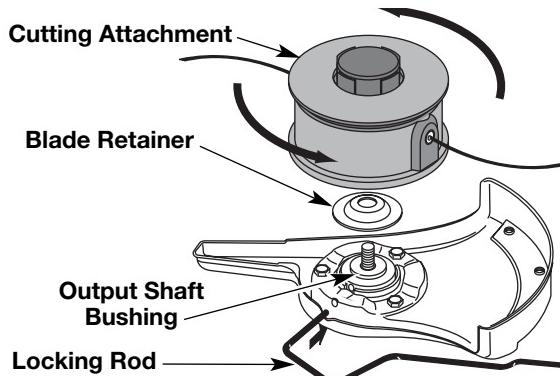

Fig. 14
- Align the shaft bushing hole with the locking rod slot and insert the locking rod into the shaft bushing hole (Fig. 7). Place the blade retainer on the output shaft with the flat surface against the output shaft bushing as shown in Fig. 14. Screw the cutting attachment counterclockwise onto the output shaft. Tighten securely.